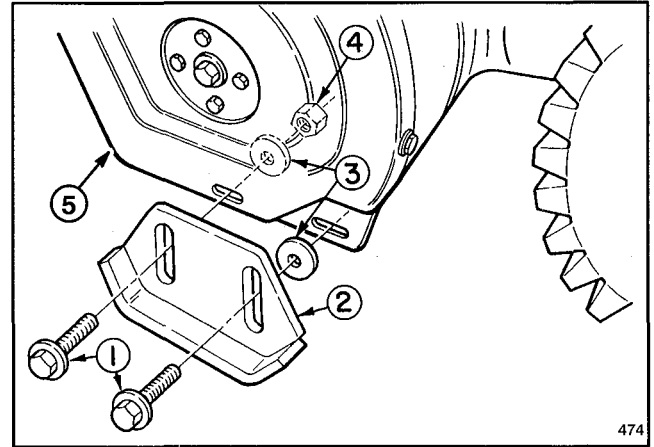

Figure 8
- Remove (2) flange bolts and washers securing ends of scraper to side plates (Fig. 8). Reinstall bolts
through rear slots in skids. Assemble both skids so that washers are between skids and sideplates (Fig. 8). Do not tighten bolts.